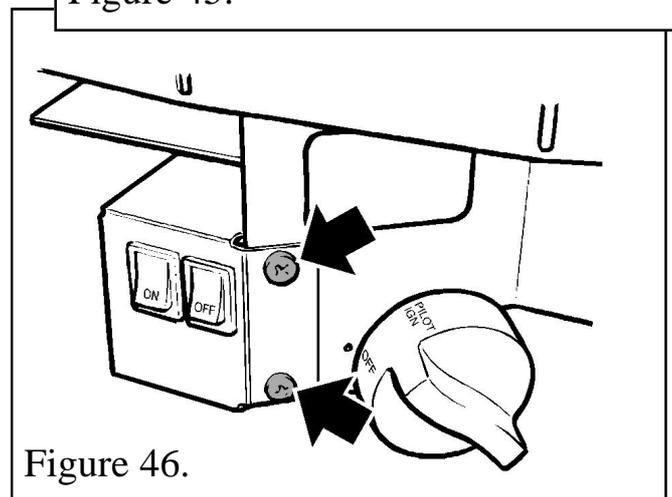

Figure 46.
- To gain access to the pilot pipe connection, detach the fan switch bracket from the burner control bracket by removing two screws (See figure 46). Disconnect the pilot pipe at the tap end.
- Detach the fan switch bracket from the burner control bracket by removing two screws (See figure 46). Carefully pull clear of the burner unit.